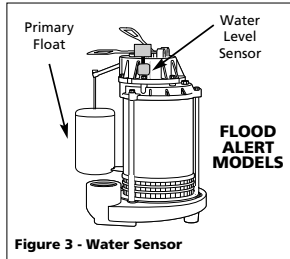

Figure 3 - Water Sensor
3. Alarm activates when water raises the water level sensor (See Figure 3).